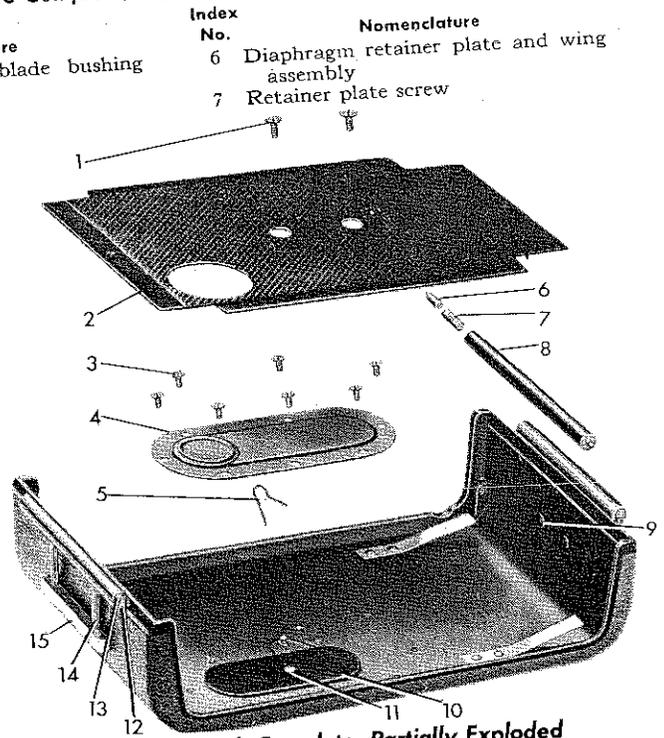

Figure 42—Back Complete, Partially Exploded
o. DISASSEMBLY OF BACK COMPLETE. (See figure 42.)
(1) Remove the two tension pad to back screws (1) and lift off the film tension pad assembly (2).
(2) Remove the seven window cover to back screws (3) and lift off the window slide cover assembly (4).
(3) Grasp the window slide spring (5) with a pair of tweezers and pull it out toward the top of the back.
(4) If necessary, use a No. 50 drill to remove the turned-over portion of the window slide button (11), being careful not to drill any deeper than is necessary to push the window slide button through toward the outside of the back. Lift off the window slide (10).